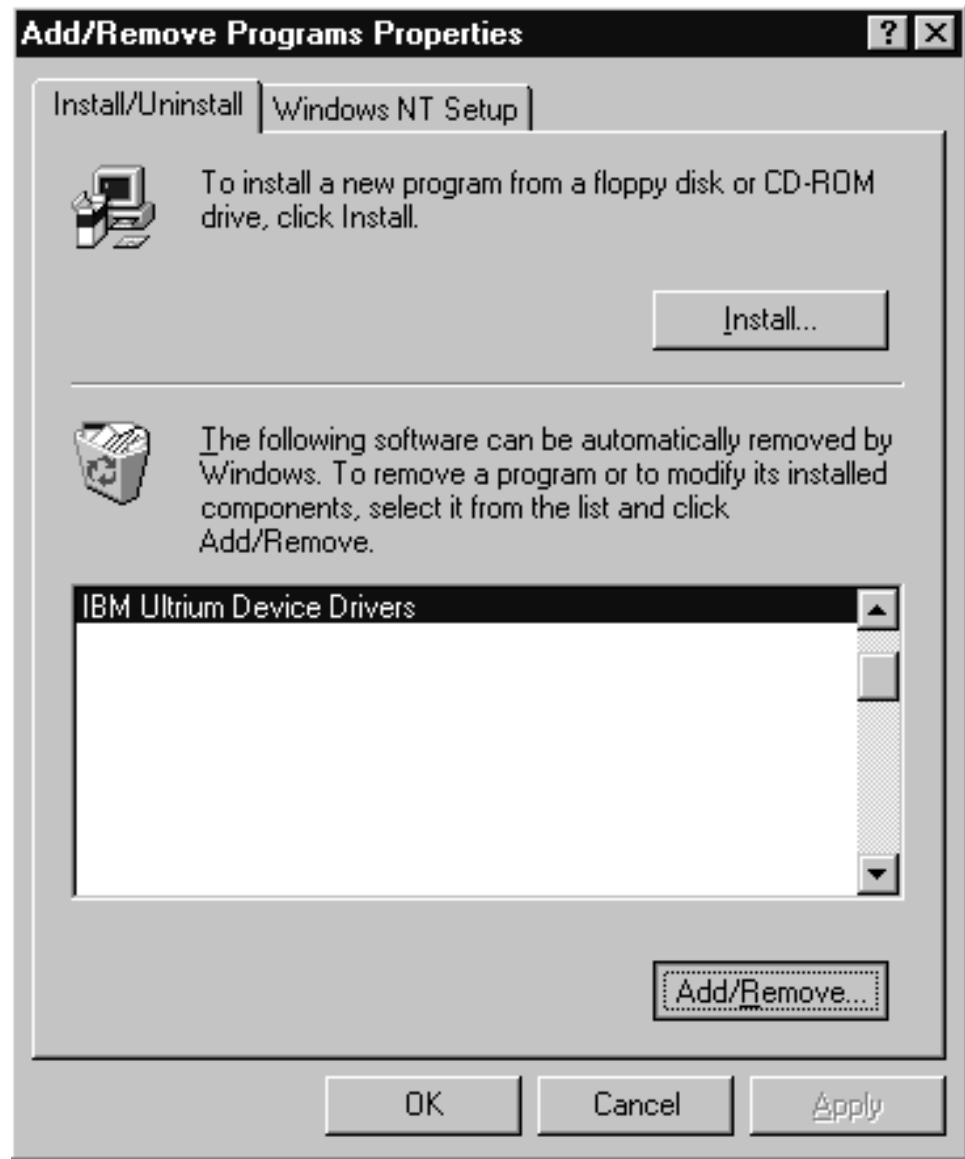

Figure 23. Add/Remove Properties
7. Highlight **IBM Ultrium Device Drivers**, then click **Add/Remove...**. See Figure 23.